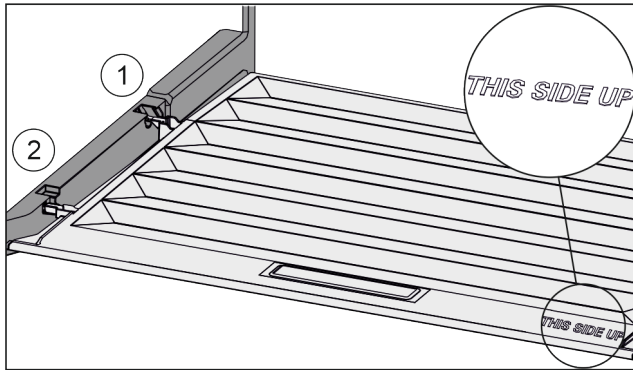

Fig. 115
- ▶ Insert the lip of the cover over the opening of the rear bracket *Fig. 115 (1)* and click into place *Fig. 115 (2)*.